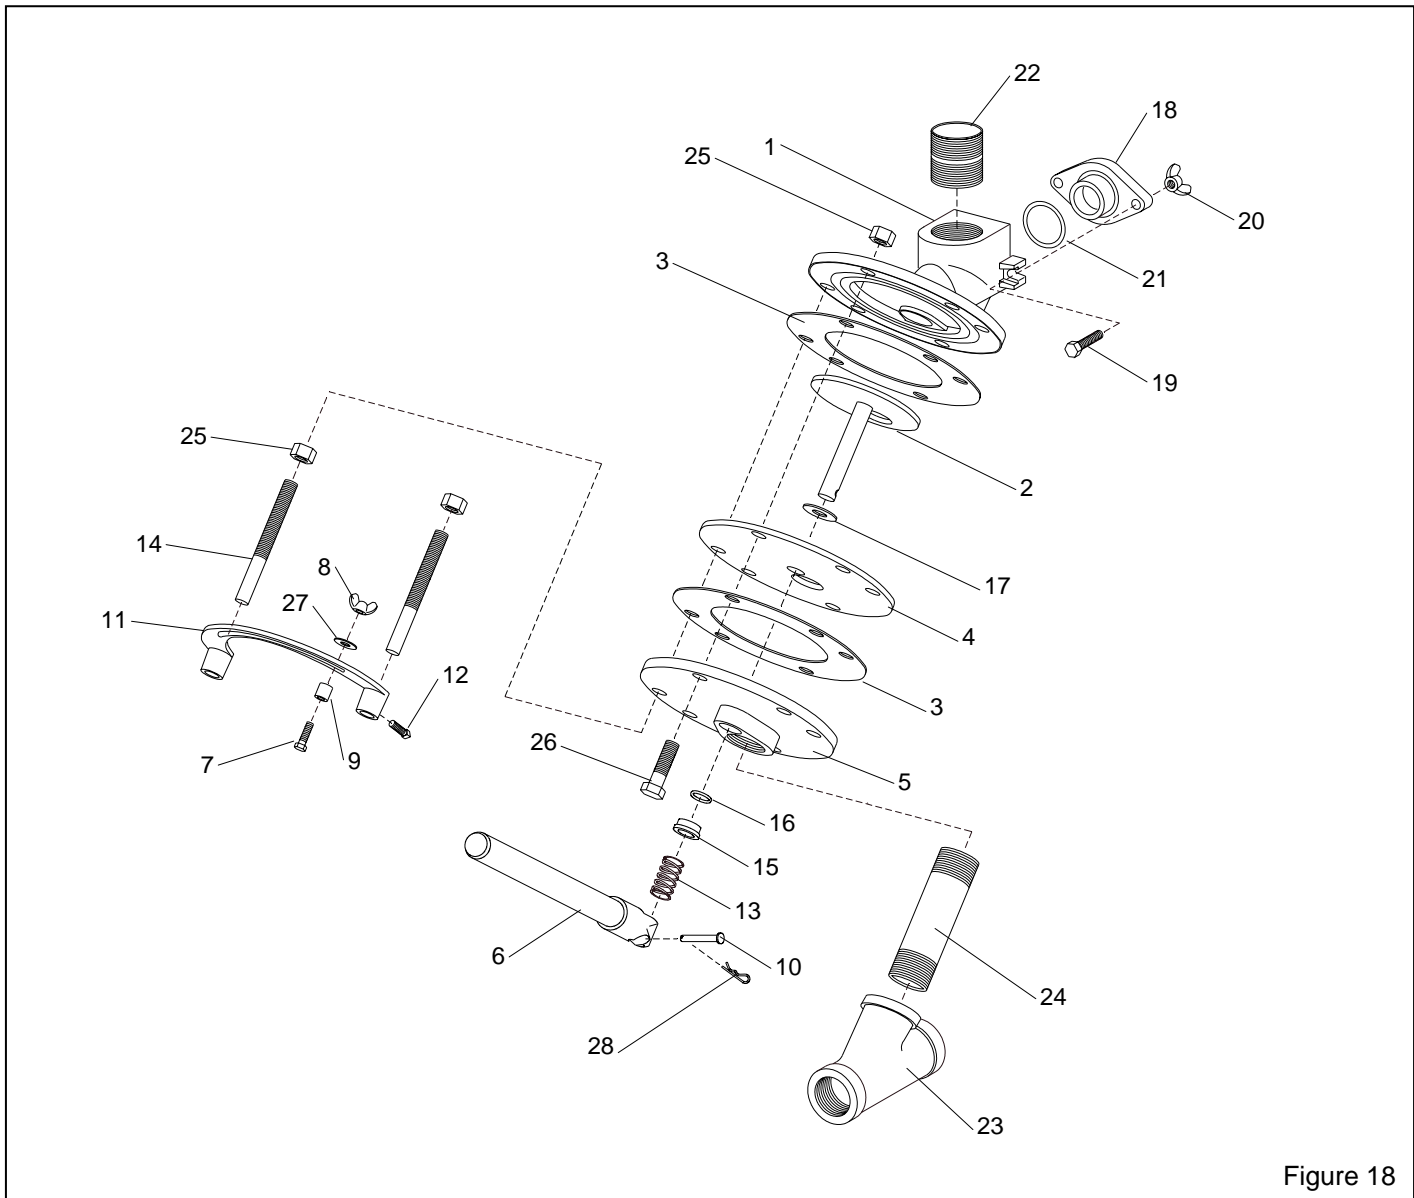

Figure 18
7.13 FSV Abrasive Metering Valve, Figure 18